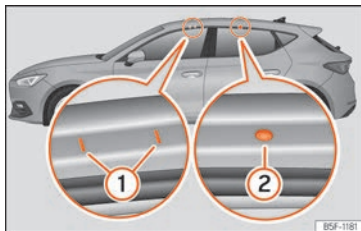

Fig. 145 Mounting points for the roof bars for the roof rack (Leon).
The front and rear attachment points ① and ② are only visible when the doors are open » **Fig. 145.**